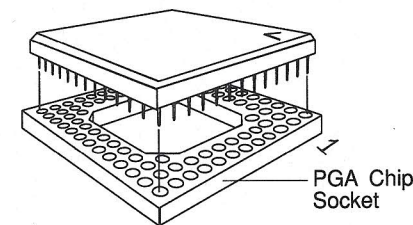

Figure 4-4. Inserting 68040 Chip
5. To install the 68040 chip, you must determine the location of pin 1 on the socket and on the chip you are installing. A small 1 printed on the module near one corner of the socket indicates the pin 1 location. Pin 1 on the chip is indicated by an L-shaped mark on one corner of the chip. Orient the chip so that the pin 1 locations of both match. Set the chip down in the socket, and when you are sure all pins are resting in their socket holes, press the chip firmly down in the socket, as in Figure 4-4.